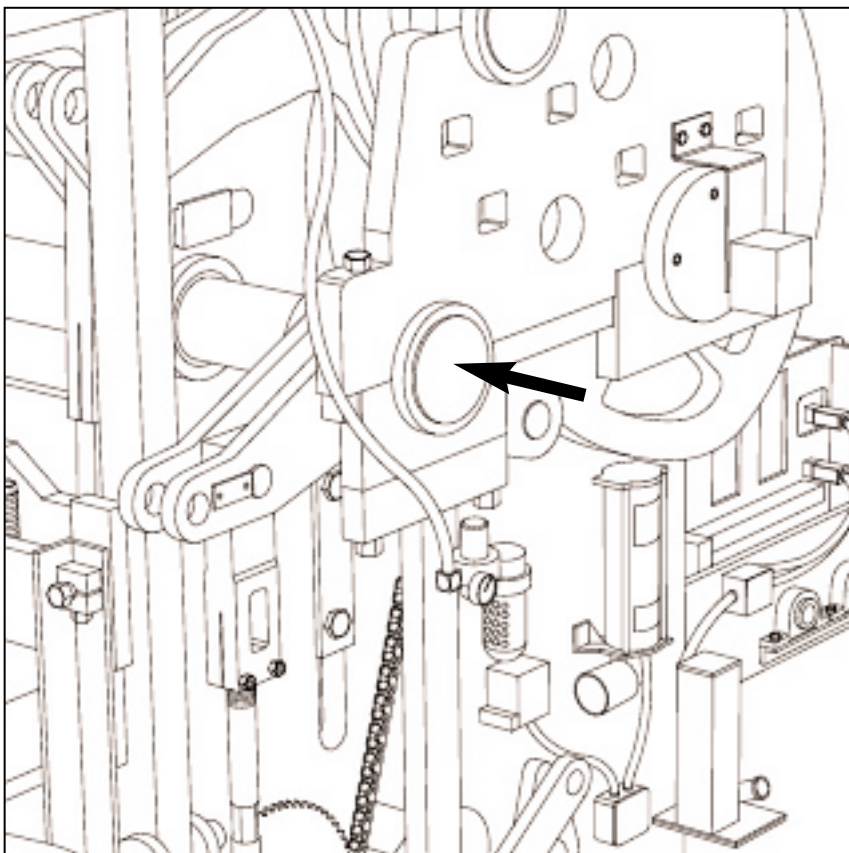

Figure 4.1 PALLET RECEIVER SHAFT POSITION.
4.1.1 The following items should be positioned as shown in figures 4.1 and 4.2:
- a. Pallet receiver shaft - position pins in inside holes (short stroke)(see figure 4.1 below).